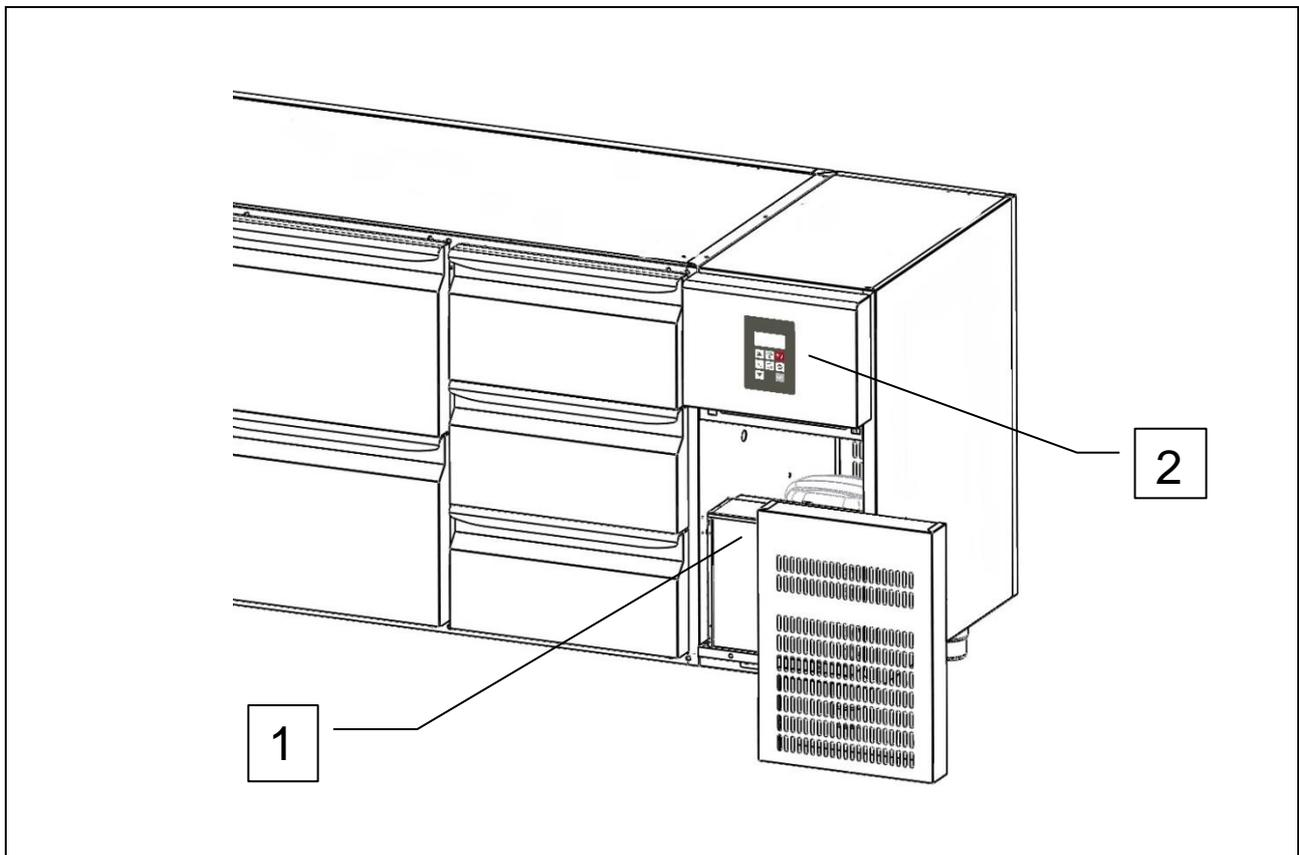

Fig. 3
- refrigerating unit (ref. 1, fig. 3);
- control panel (ref. 2, fig. 3)